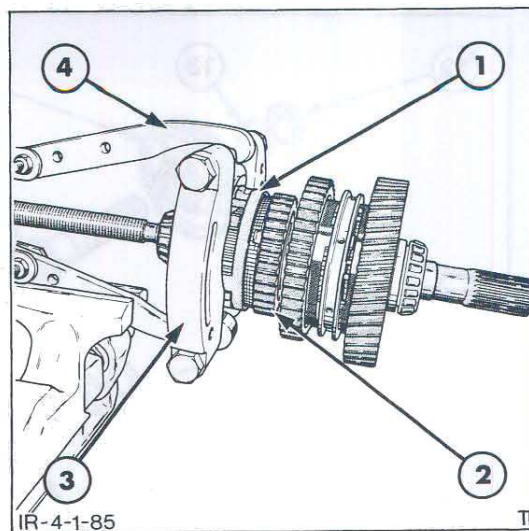

Figure 85
1. Engage the 3rd/4th gear synchroniser assembly to the 3rd gear as shown in Figure 85.
2. Attach a puller, Tool No. 1003 or 9516 with shaft protector Tool No. 625A or 9212 and bearing clamp Tool No. 952 or 9526, to the outer cone of the 3rd/4th gear synchroniser and remove the front bearing, thrust washer, 4th gear and the synchroniser assembly as shown in Figure 85.